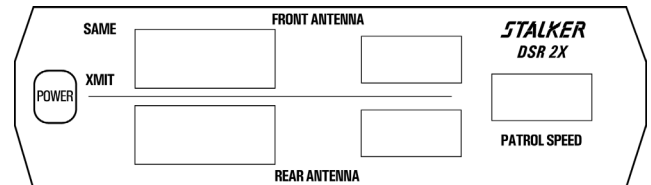

Fig. 19
**FRONT SAME** - To activate the Front Same Target Zone, press the front antenna **SAME** key. The **STALKER DSR 2X** will beep once immediately to acknowledge that the Target Zone is activated. To confirm activation, the front **SAME** and **XMIT** display icons will be illuminated. Fig. 19 illustrates this condition.